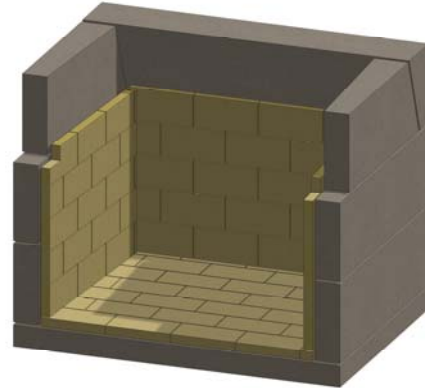

Figure 16. Sidewall Firebrick
J. Install firebrick on the side walls, with the brick laid on edge. The brick lay up on approximately 1/3 of the upper sidewall, and a notch should be cut in the front brick on each side, to allow them to clear the front lintel piece (to be installed later). See Figure 16.